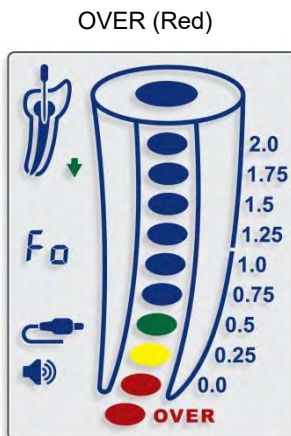

Fig. 11
**⚠** The red **OVER** indication accompanied by frequent beeps indicates that the file tip have progressed beyond the foramen into the periapical region - 'Foramen over-instrumentation' (Fig. 11).